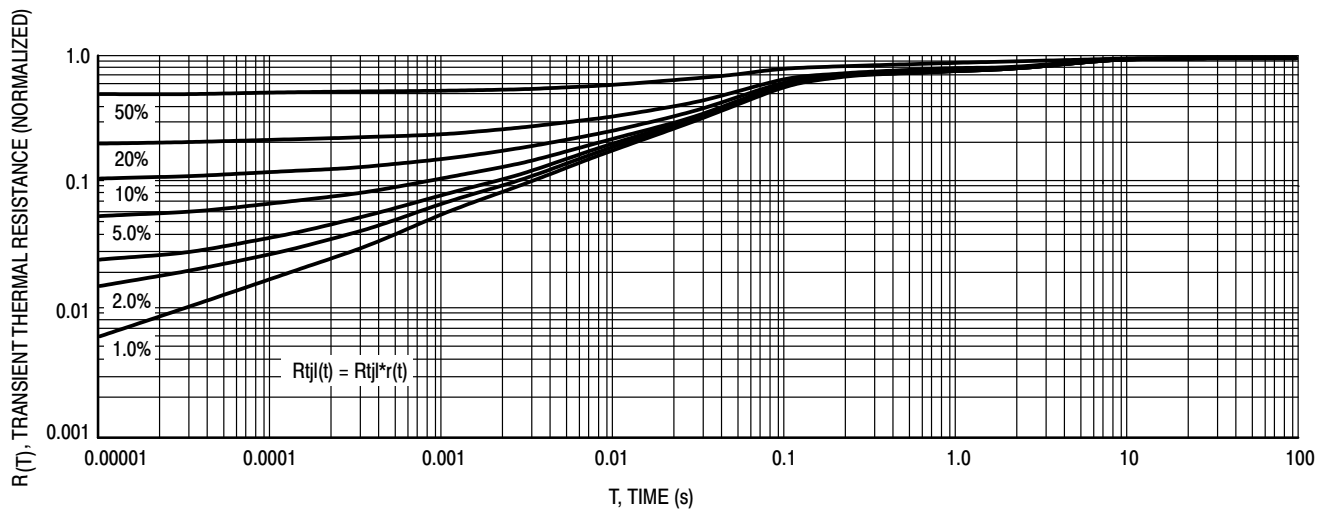

Figure 8. Thermal Response Junction to Lead
1. Mounted with minimum recommended pad size, PC Board FR4, See Figures 8 and 9.